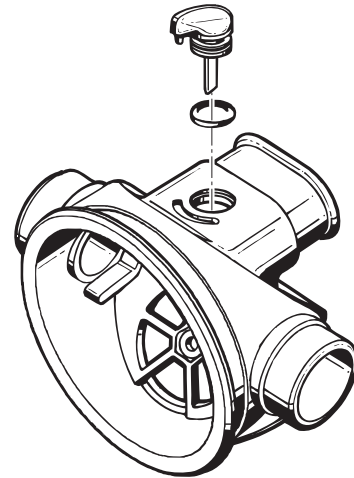

Fig. 7 – V.A.S. Alignment
1. Install the O-ring(23) onto the vane adjustment switch(24).
2. Mate the stem of the vane switch into its respective hole in the box bottom(22), above the outlet boss, and align the mating pin above the positioning guide (see Fig. 7). When the switch is correctly aligned, press it down and into place so that it is properly seated inside the box bottom.